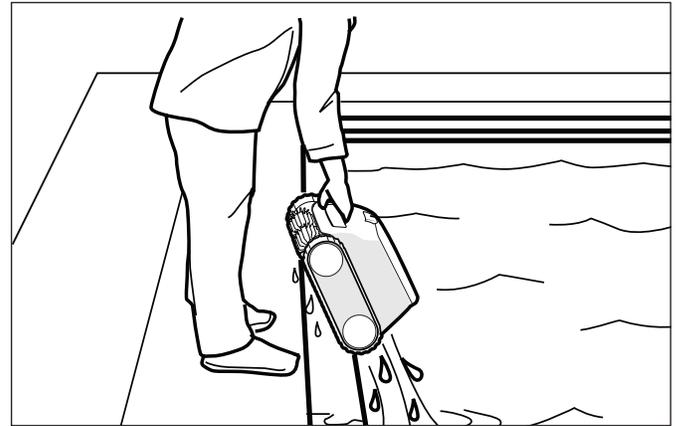

Figure 6. Always remove cleaner using the handle
Use the handle to lift the cleaner from the water and hold the cleaner vertically over the pool surface to drain (Figure 6). **Never lift the cleaner out of the pool by the floating cable.**
6. When in reach, remove the cleaner from the pool using the handle. The cleaner will quickly expel water to allow for lighter, easier removal (Figure 6).